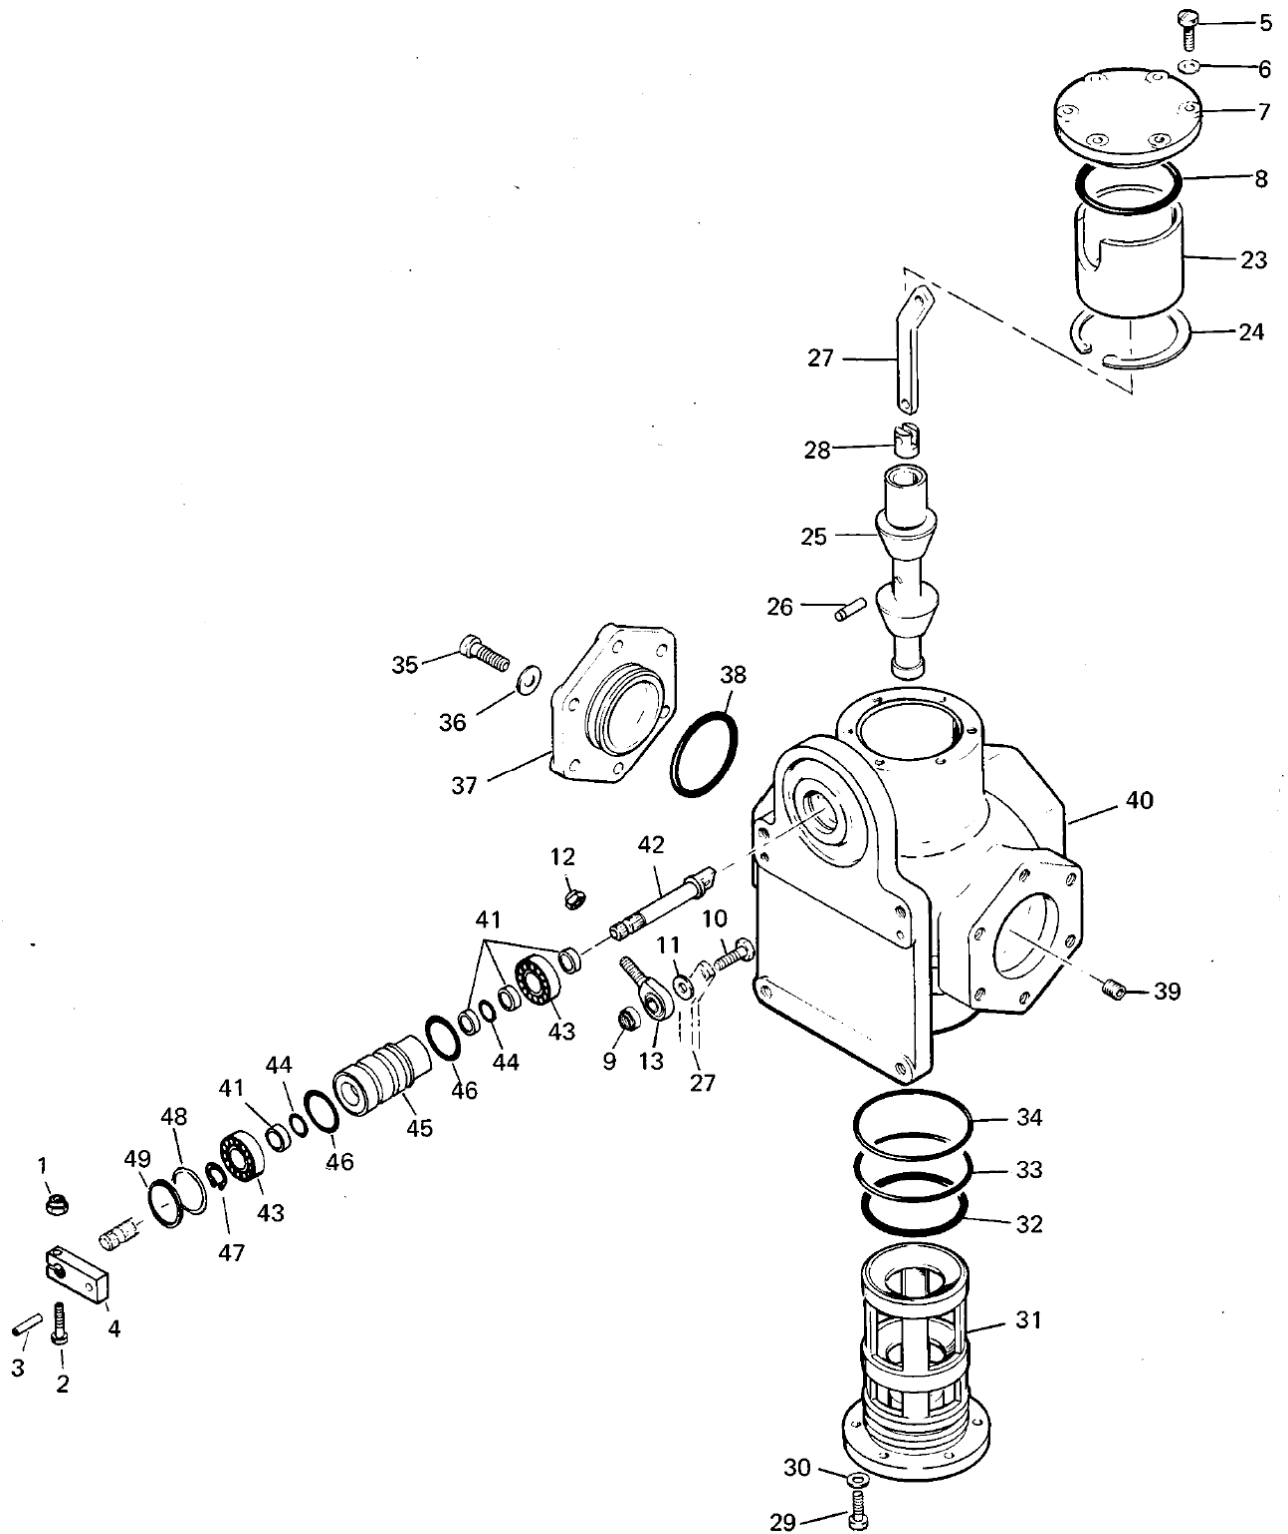

Figure 4-1. Large Gas Fuel Valve Exploded View
Reassemble the gas fuel valve in reverse order of the index numbers assigned to Figure 4-1, following the special instructions given below.
4. Install rod end spherical bearing (13, Figure 4-1) in control shaft (22) and secure at dimension recorded in step 2, under disassembly.
5. Align the scribe marks on the control lever (4) with those on the control shaft (22) and secure in position with screw (2) and nut (1).
The illustrated parts breakdown (Figure 4-1) shows all parts of the large gas fuel valve assembly. Index numbers are assigned in disassembly sequence. Circled index numbers indicate items which do not require further disassembly unless repair or replacement of the part is required.